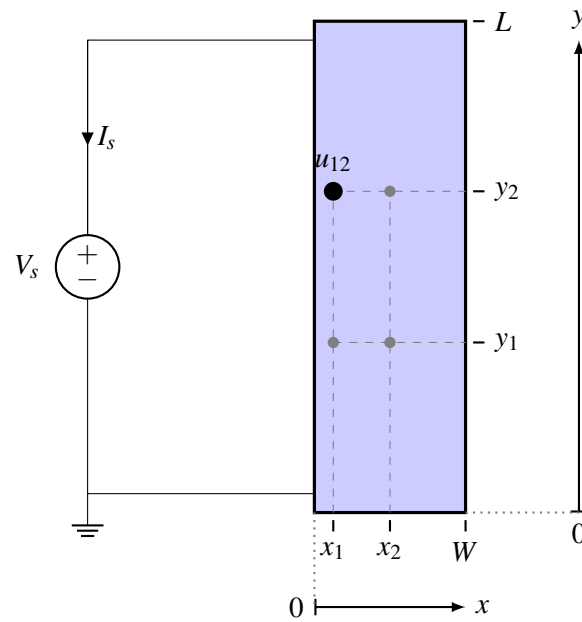

Figure 4: Top view of resistive touchscreen showing node u_{12} .
- Let us assume u_{12} is the node voltage at the node represented by coordinates (x_1, y_2) of the touchscreen, as shown in **Figure 4**. What is the value of u_{12} ? You should first draw a circuit diagram representing Figure 4, which includes node u_{12} . Specify all resistance values in the diagram. Does the value of u_{12} change based on the value of the x -coordinate x_1 ?